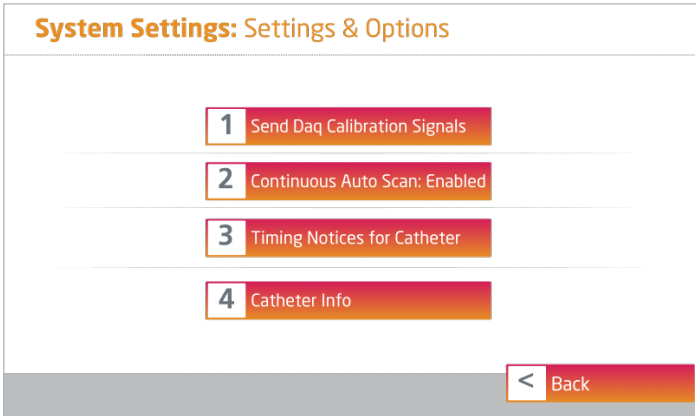
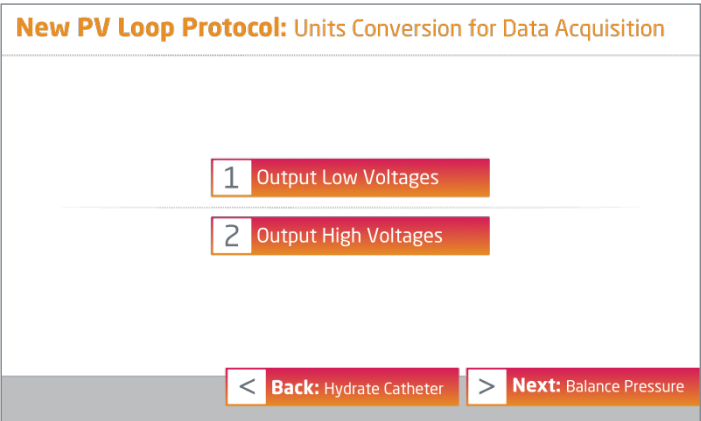

Figure 16: MPVS Duo System Settings: Settings & Options
Figure 21: MPVS Duo New PV Loop Protocol: Send DAQ Calibration Signals
2. The data acquisition (A/D) system used with the MPVS Duo system must be configured for at least a 0-5V input span. There is an option on the MPVS Duo menu to send the appropriate voltage levels to calibrate the acquisition system. This option is found in the "New PV Loop Protocol: Units Conversion for Data Acquisition" screen, shown in Figure 21 on page 12 or alternatively under "System Settings", shown in Figure 16 on page 10.
3. Connect the power jack of the external power supply to the power input on the MPVS Duo. Turn on the MPVS Duo system using the **Power Button** on the MPVS Duo's keypad. Connect a Millar Pressure-Volume (PV) Catheter to the MPVS Duo's "**Catheter**" port using the supplied Micro HDMI-Full Size HDMI cable. The MPVS Duo control unit will recognize the catheter when it is connected and automatically select the appropriate menu to be displayed.
- 3. More Settings:** Displays the “System Settings: Settings and Options” submenu listed below Figure 16
- 1. Send DAQ Calibration Signals:** Outputs a low and high voltage value for calibrating the analog to digital data acquisition systems (DAQ). The calibration signals are also displayed as part of the “New PV Loop Protocol: Units Conversion for Data Acquisition”, as shown in Figure 21 on page 12.